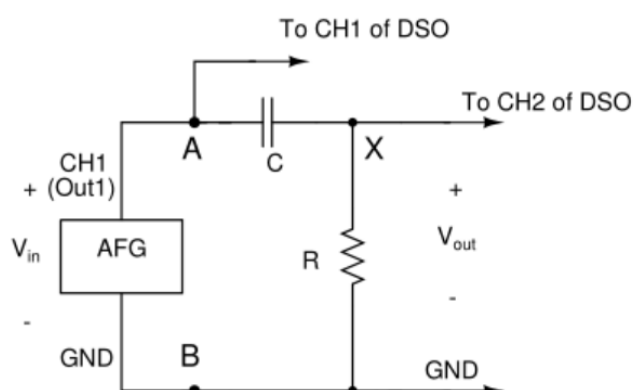

Fig. 5 RC high-pass filter circuit
The circuit diagram of an RC high-pass filter is shown in Fig. 5. As seen in the figure, a sinusoidal signal is applied as the input test signal to the RC high-pass circuit.
Because of the above behaviour (i.e. passing frequencies above a certain cut-off frequency while attenuating those below it) the circuit in Fig. 5 is called a high-pass filter.
- Wire the circuit of Fig.5 on your bread board with $R = 1\text{ k}\Omega$ and $C = 0.1\text{ }\mu\text{F}$. Note that the output of the AFG is connected as input of the circuit (to nodes A and B) as shown. i.e. $V_{in} = \text{AFG output}$. Output of the filter (V_{out}) is taken across the resistor R, i.e. across nodes X and B.